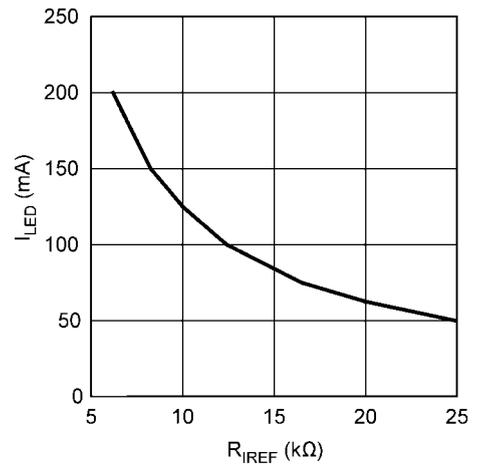

FIGURE 4.  $I_{LED}$  and  $R_{IREF}$
The current of an LED string ( $I_{LED}$ ) is programmable from 50 mA to 200 mA by an external resistor  $R_{IREF}$  connecting from the IREF pin to the ground. The relationship between  $I_{LED}$  and  $R_{IREF}$  is shown in Figure 4. The two channels of the current regulator can work in parallel for only one LED string by connecting the IOUT1 and IOUT2 pins together to provide an LED current of up to 400 mA. In this case, the DIM1 and DIM2 pins should also be connected together.
**RRT and RIREF:** The resistors  $R_{RT}$  and  $R_{IREF}$  set the switching frequency  $f_{SW}$  of the boost converter and the LED current  $I_{LED}$  respectively. From Figure 1, if  $f_{SW}$  is 300 kHz,  $R_{RT}$  is selected to be 499 k $\Omega$ . From Figure 4, if  $I_{LED}$  is 200 mA,  $R_{IREF}$  is selected to be 6.19 k $\Omega$ .